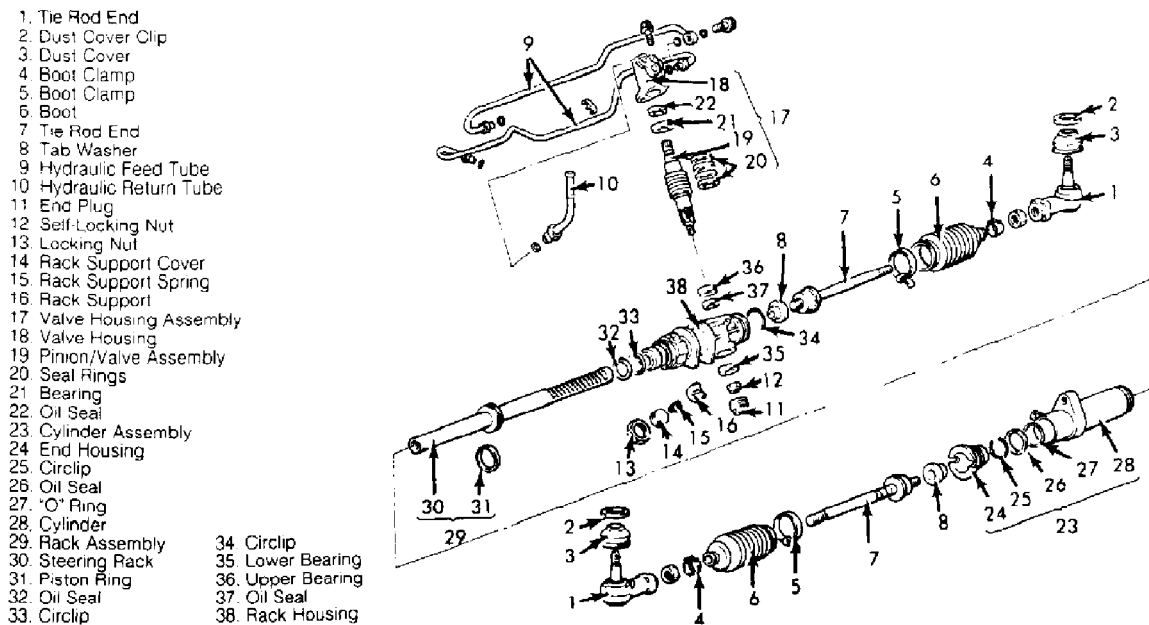

Fig. 6: Exploded View Of Power Rack & Pinion Assembly (Typical)
1) With power rack and pinion assembly mounted in soft-jawed vise, remove tie rod ends, boot clamps and boots. See Fig. 6. Using a chisel, remove tie rod tab washer. Remove tie rod assemblies.